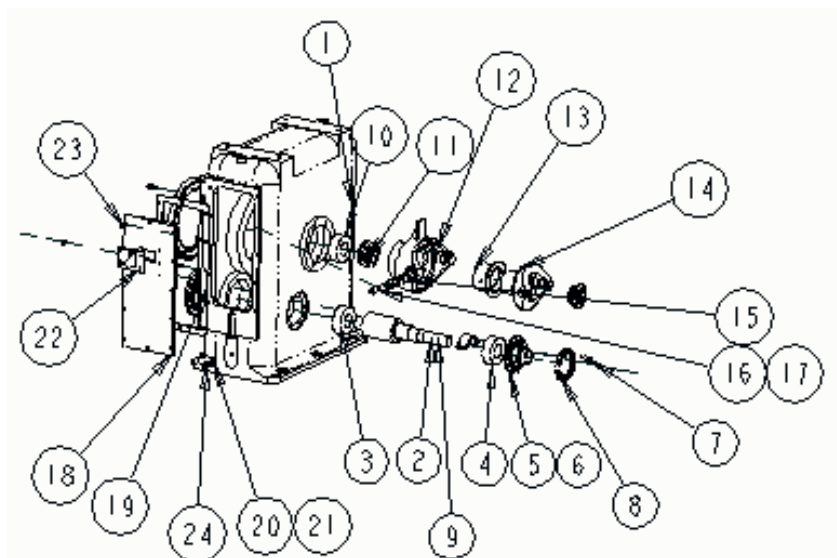

Figure12 DISASSEMBLING AND ASSEMBLING OF PINION SHAFT
The disassembling and assembling steps of pinion shaft are as following (see Figure12):
The disassembling and assembling steps are as following (See Figure 12 and 13):
- Disassemble the retaining ring 17 to remove the shear pin 16; (Figure 12)
- Disassemble bolt to remove the outside flange14; (Figure 12)
- Disassemble bolt 23 to remove the right end cap 18 of gearbox and rubber pad 19;(Figure12)
7.3.4.2 Disassembling and Assembling of Shear Pin (see Figure 12)